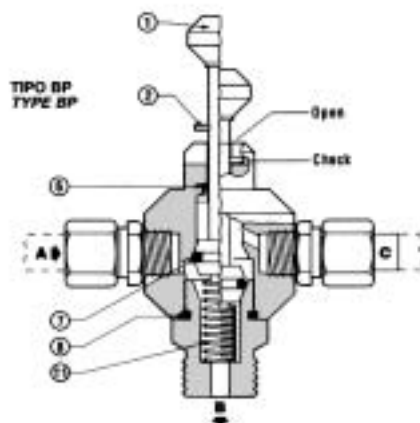

Fig. 8
3.1 VALVOLA DEVIATRICE A TRE VIE "PUSH" (FIG. 8)
3.1 "PUSH" THREE-WAYS SWITCH VALVE (FIG. 8)
3.1 "PUSH" (FIG. 8)
3.1 VANNE DE DEVIATION A TROIS VOIES "PUSH" (FIG. 8)
3.1 GRIFO DE TRES VIAS "PUSH" (FIG. 8)
3.1 VÁLVULA DESVIADORA A TRÊS VIAS "PUSH" (FIG. 8)